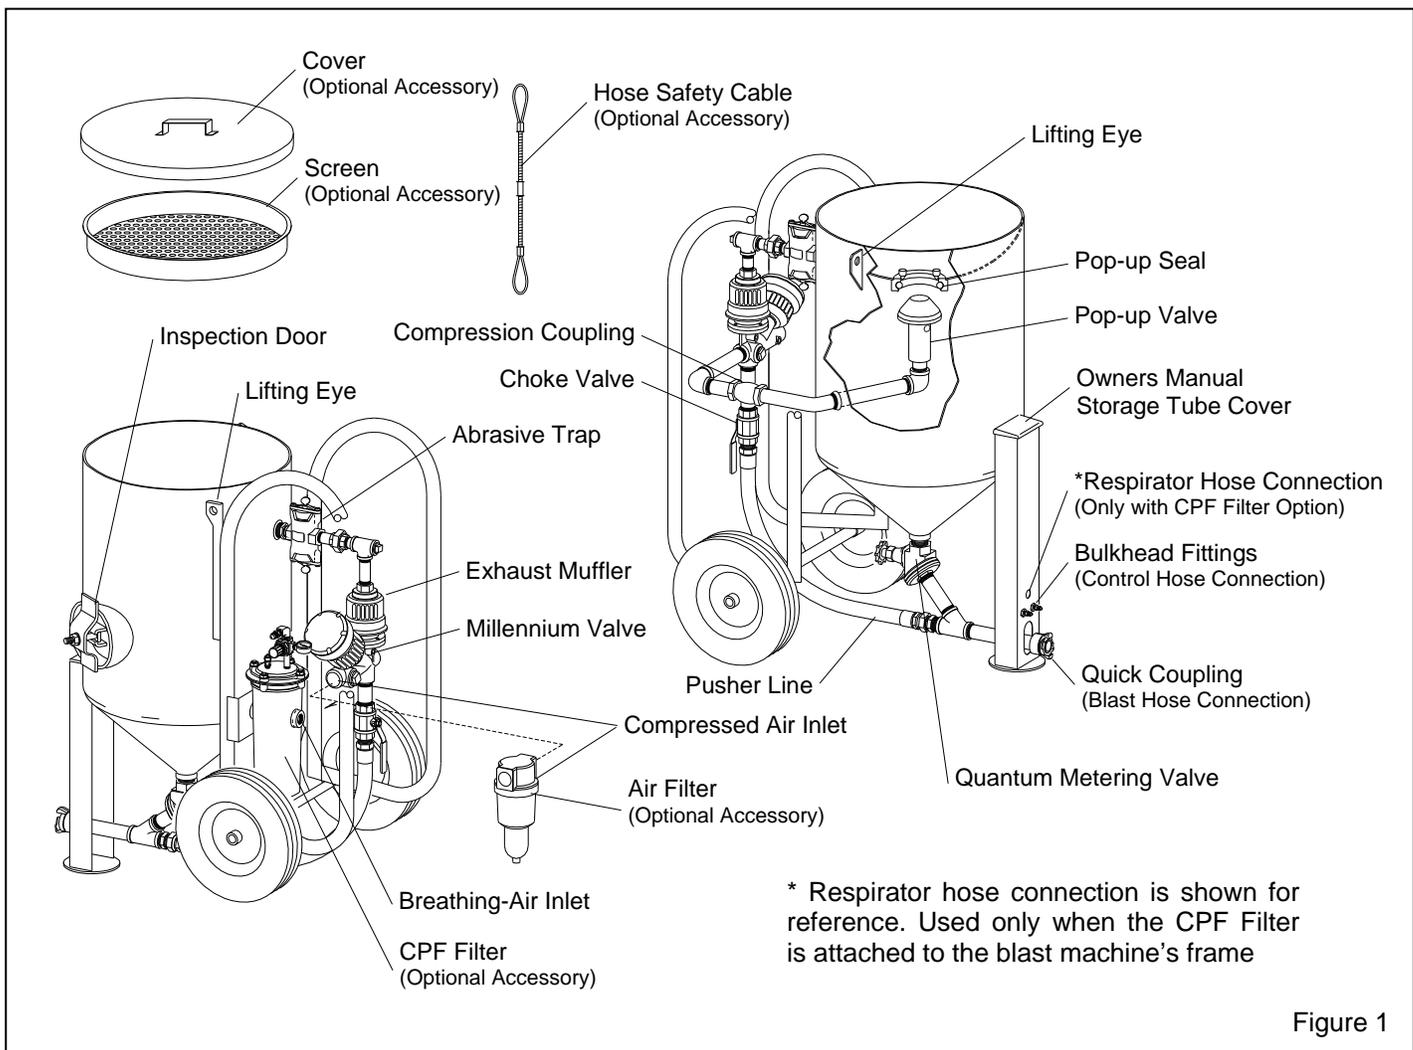

Figure 1
1.3.1.1 The primary components of the Contractor machines are shown in Figure 1. They include the blast machine with Millennium Remote Controls, manually operated Quantum Abrasive Metering Valve, frame assembly, optional compressed air filter, and optional CPF particulate air filter.
2.4.2 Connect an air supply hose fitting that is compatible with the air supply hose from an air source that meets OSHA requirements for respirable air, to the CPF Filter inlet, as shown in Figure 1. Pressure supplied to the filter must not exceed 150 psi.
2.4.3 For models with CPF filter attached, connect the 5-foot respirator lead hose to the fitting at the top of the CPF filter and the compatible fitting on the front leg of the blast machine. Refer to Figure 1 for fitting location.